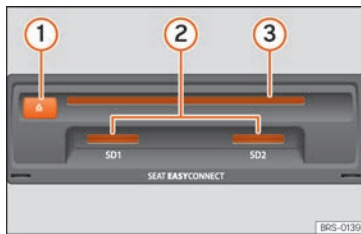

Fig. 196 Slots for data storage devices in the glove compartment.
- Insert a CD or DVD into the slot »» **Fig. 196** ③ with the printed side facing upwards, until the equipment inserts it automatically.
Insert the compatible memory card, with the cut corner first and the contacts facing down, into slot » **Fig. 196** (2), until it clicks into place.